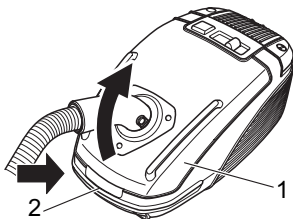

Fig. 23
1. Press the release button (Fig. 23/2) and open the dust chamber cover (Fig. 23/1).